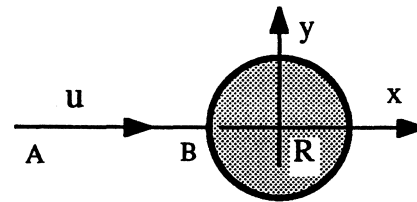

Fig. P1.22
**1.22\*** According to the theory of Chap. 8, as a uniform stream approaches a cylinder of radius  $R$  along the line  $AB$  shown in Fig. P1.22,  $-\infty < x < -R$ , the velocities are